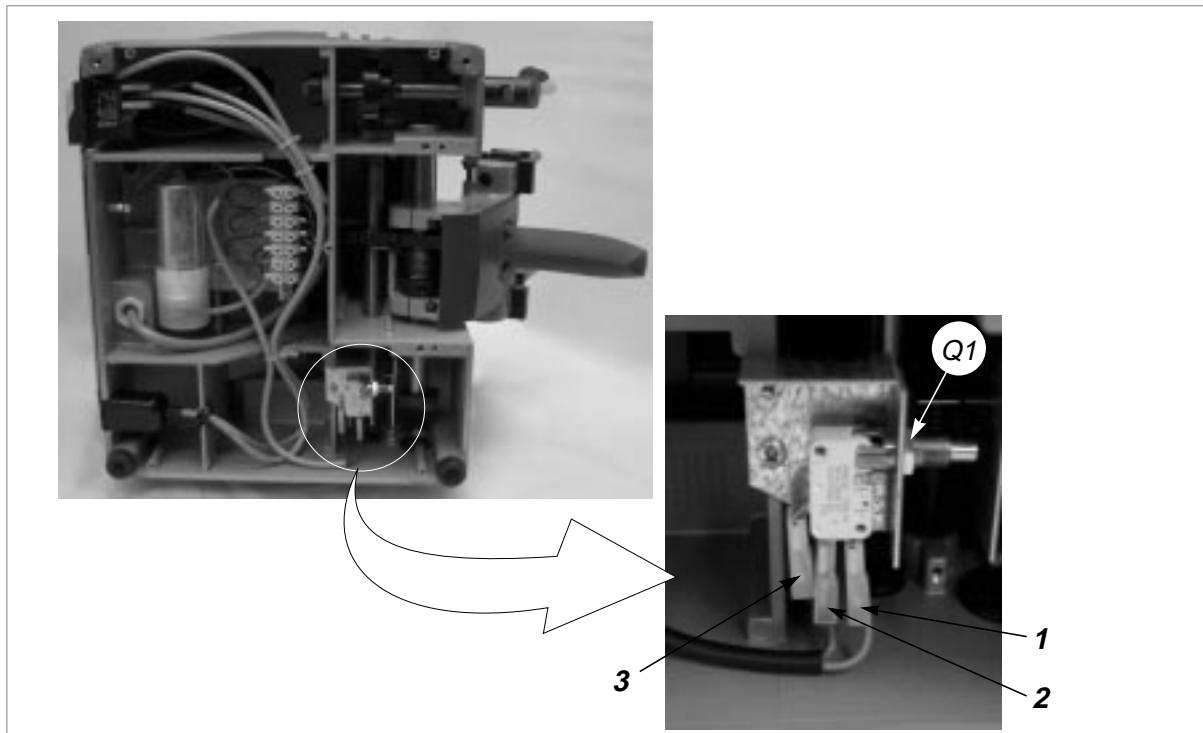

Fig. 28
- 4) Loosen the nut (Q1) and remove the microswitch (fig.28).